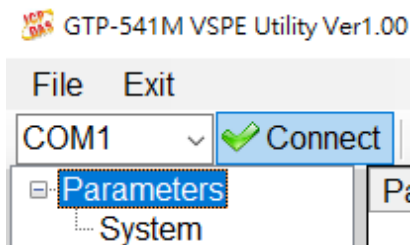

Figure 10.2.2
2. Click **Connect** to connect GTP-541M, as shown in Figure 10.2.2.